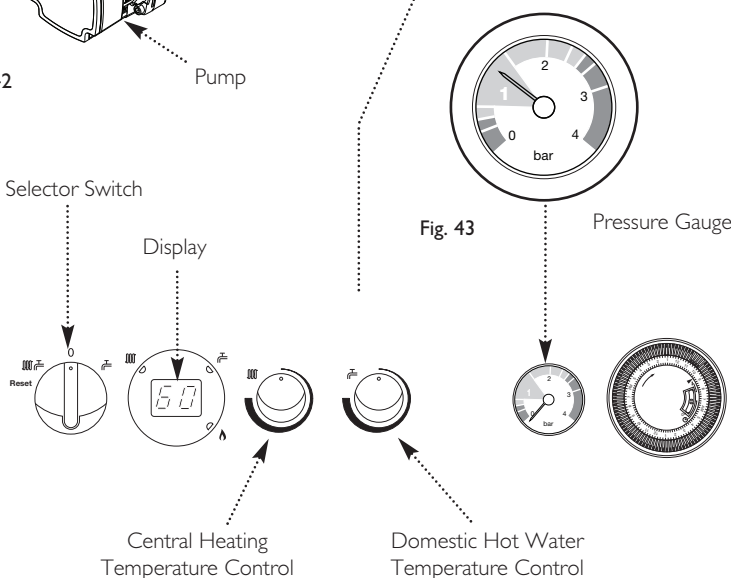

Fig. 43
8. Pressurise the system to 1.5 bar (Fig. 43) then close and disconnect the filling loop.